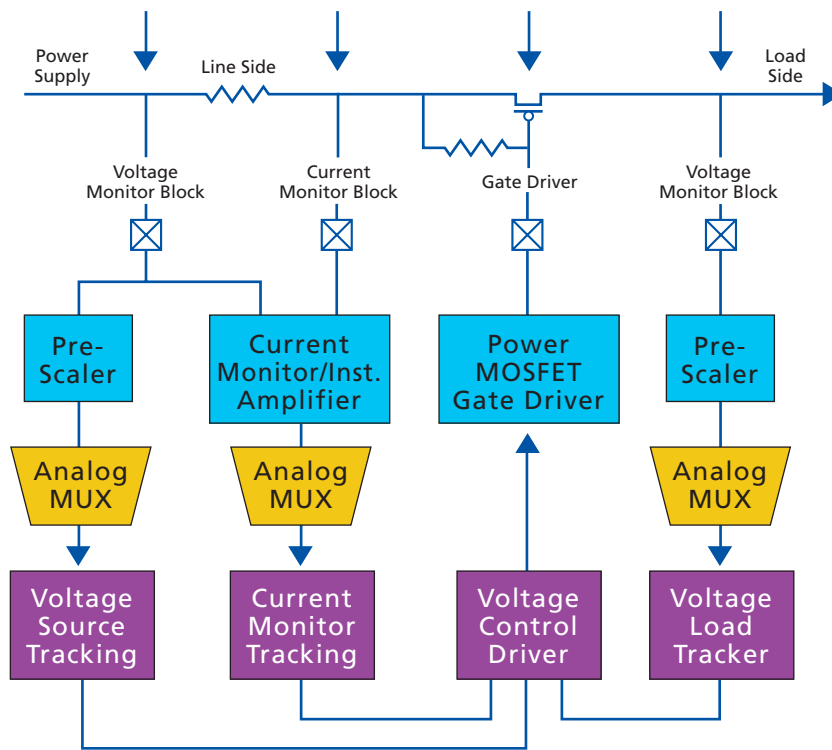

Figure 4: Voltage Rail Control Example
As the most recognizable aspect of system management, Fusion architecture takes aim at power management with an I/O structure specifically designed to effectively and efficiently manage multiple power rails directly (refer to Figure 4). Fusion can manage up to 10 power supplies and connect directly to power rails from -11 V up to 12 V without any external components. The Fusion Analog Quad (AQ) I/O structure combines three analog inputs with a gate driver output. Each analog I/O is individually configurable and can operate independently. Additionally, these I/Os were designed and grouped together to work in concert to support power management. The robust functionality of the AQ allows for the following: